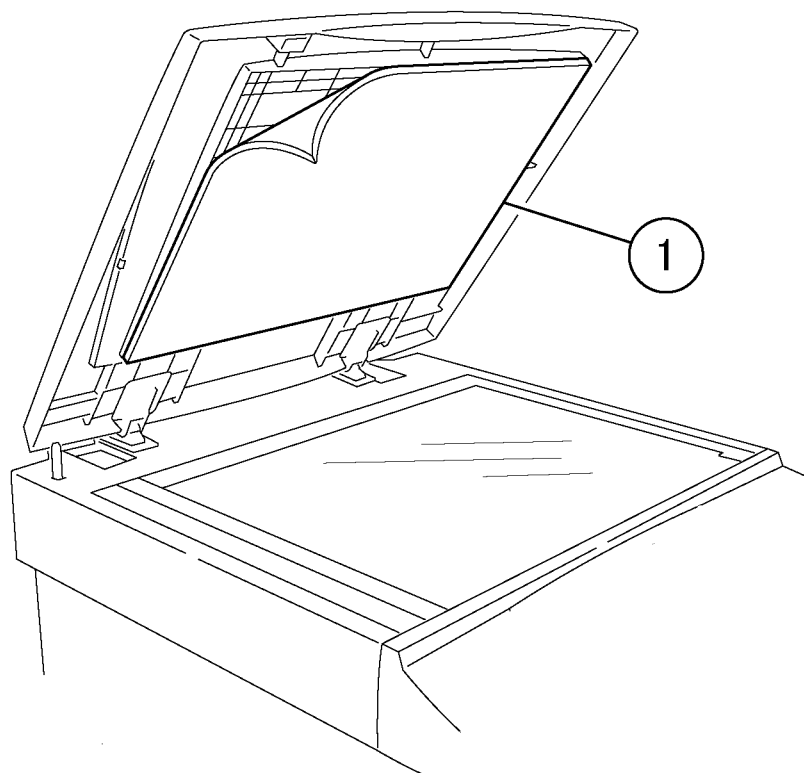

Figure 1 Removing the Platen Cushion
1. Remove the Platen Cushion (Figure 1).